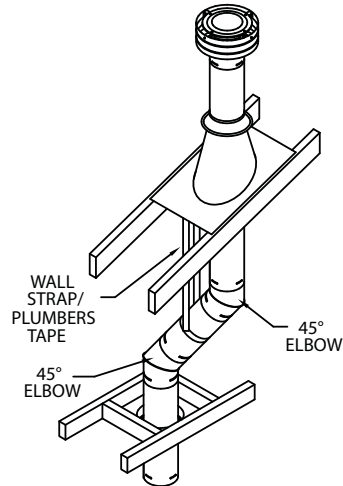

Figure 16
(2) If an offset is necessary in the attic to avoid obstructions, it is important to support the vent pipe in order to avoid excessive stress on the Elbows. Wall Straps or plumbers tape may be used for this purpose (**Fig. 16**).
(3) Wherever possible, use 45° Elbows instead of 90° Elbows. The 45° Elbow offers less restriction to the flow of flue gases and intake air.